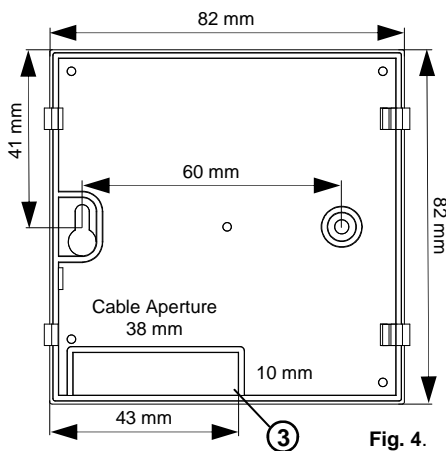

Fig. 4.
1. Remove the knob by tilting it, eventually with the help of a screwdriver placed in the slot (1).
2. Remove plastic cover by moving to the inner side, through the use of a tool, the two plastic teeth (2) located on the left side of the thermostat.
3. Fix the device base plate to the wall through the two screw holes with distance between axes of 60 mm (Fig. 4).